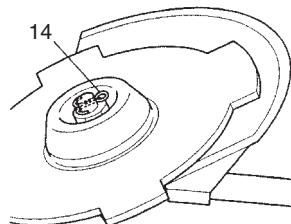

Fig. 9
- When installing cutter holder cap (11), be sure to set concave side upward.
- Insert the alien wrench (10) into the hole of the angle transmission in order to lock the cutter holder (12). Please note that the cutter fixing bolt or nut (13) has left-handed threads, (clockwise to loosen/counter-clockwise to tighten). Tighten the fixing bolt or nut with the box wrench.
- If your unit is of a nut securing type and equipped with a cotter pin, the blade must be retained with a new pin (14) each time installed. (Fig. 9)